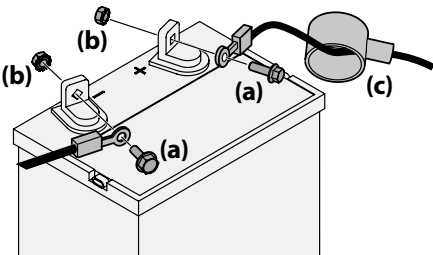

Figure 2-2
1. Remove the plastic cover, if present, from the positive battery terminal and attach the red cable to the positive battery terminal (+) with the bolt (a) and hex nut (b). See Figure 2-2.
2. Remove the plastic cover, if present, from the negative battery terminal and attach the black cable to the negative battery terminal (–) with the bolt (a) and hex nut (b). See Figure 2-2.